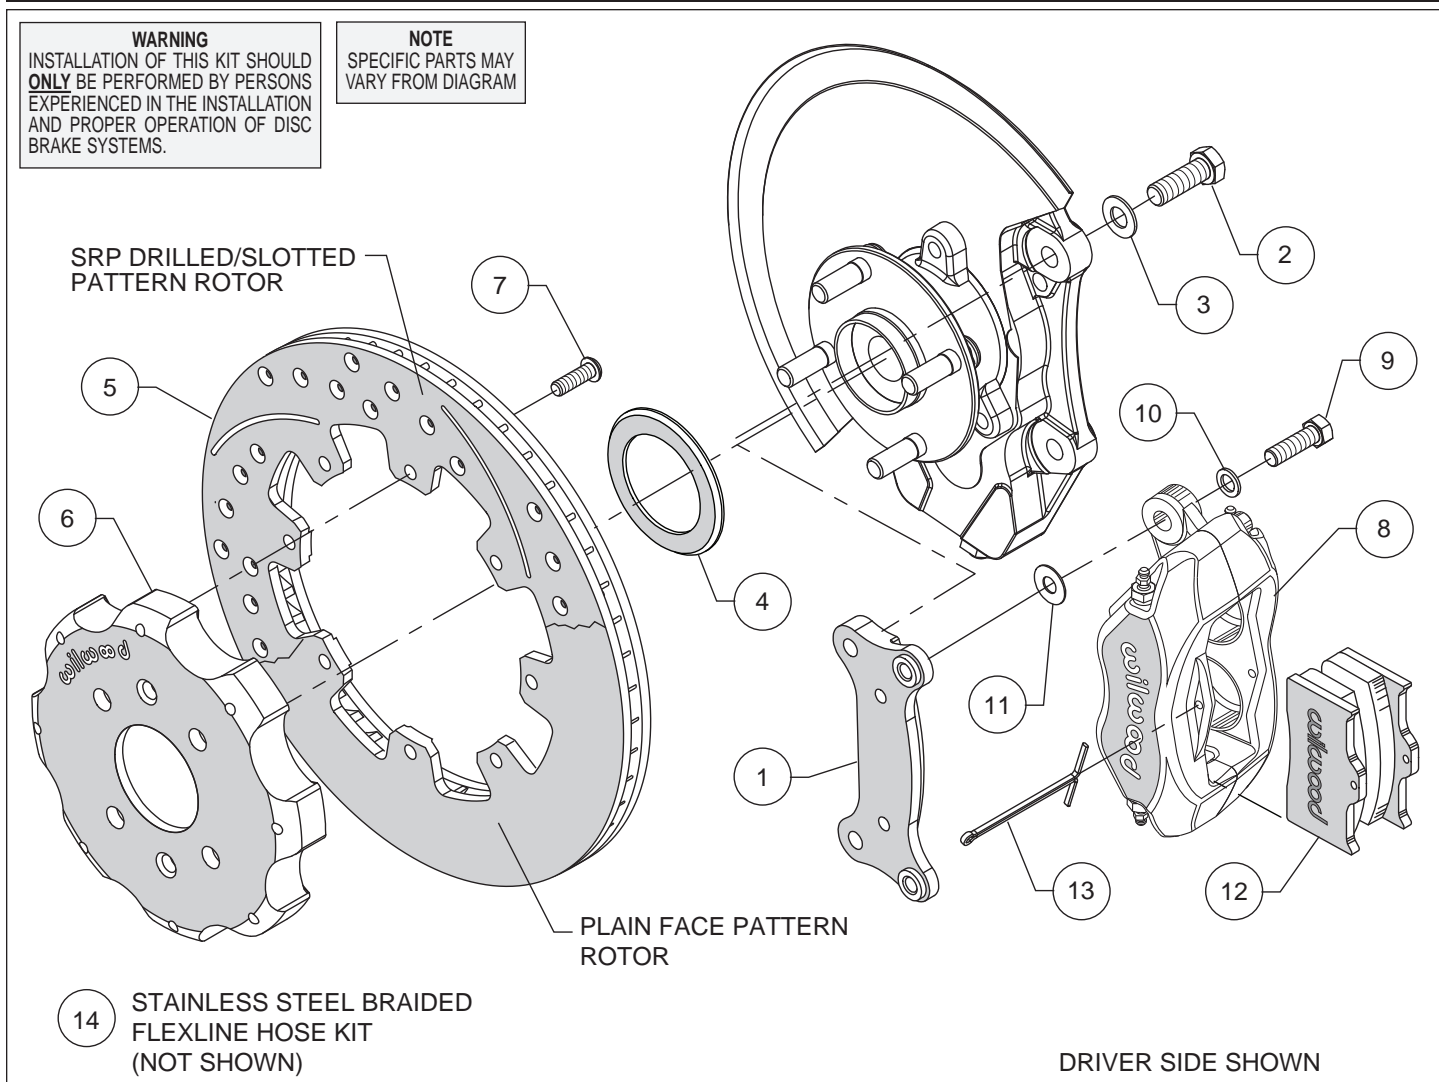
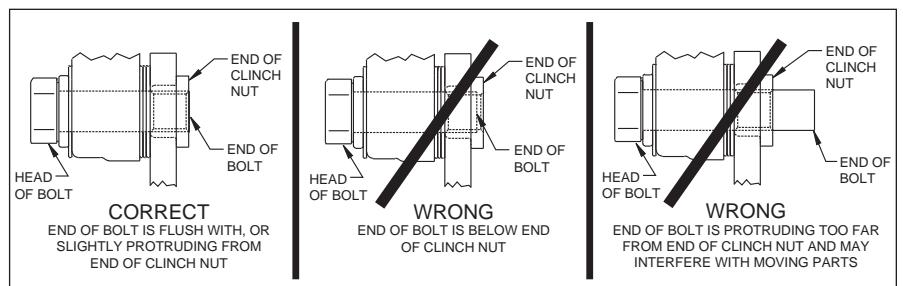

Figure 1. Typical Installation Configuration
Figure 3. Clinch Nut Engagement Diagram
Assembly Instructions (numbers in parenthesis refer to the parts list and Figure 1 on the preceding pages): **CAUTION:** All mounting bolts must fully engage clinch nuts. Be sure to check that all bolts are either flush or protruding through flanged side of clinch nut after shimming, Figure 3.
- Orient the caliper mount bracket (1) as shown in Figure 1 and Photo 1, and install using bolts (2) and washers (3). Ensure that the flanged heads of the clinch nuts in the bracket are facing outboard, Photo 1. Temporarily tighten the mounting bolts. **NOTE:** The bracket must fit squarely against the mount bosses on the upright. Inspect for interference from casting irregularities, machining ridges, burrs, etc. Remove bolts one at a time, apply red *Loctite*® 271 to the threads and torque to 60 ft-lb.
- Orient the rotor (5) and the hat (6) as shown in Figure 1 and Photo 2. Attach rotor to hat using bolts (7). Using an alternating sequence, apply red *Loctite*® 271 to the threads, and torque to 25 ft-lbs.
- Slide the rotor registration adapter (4) onto the axle register on the axle hub with the smaller O.D. facing toward the rotor/hat (5/6), Photo 3. Slide the hat/rotor assembly onto the axle hub. **NOTE:** The hat must fit flush against the axle hub flange or excessive rotor run out may result. Install three lug nuts (finger tight) to keep the hat/rotor assembly in place while continuing with the installation.
- **NOTE:** Please reference the caution statement at the beginning of the assembly instructions. Mount the caliper (8) onto the caliper mounting bracket (1) using bolts (9) and washers (10), as shown in Figure 1. Initially place one .035" thick shim (11) on each bolt between the caliper and the bracket, Photo 4. Temporarily tighten the mounting bolts and view the rotor (5) through the top opening of the caliper. The rotor should be centered in the caliper, Photo 5. If not, adjust by adding or subtracting shims between the bracket and the caliper. Always use the same amount of shims on each of the two mounting bolts. **NOTE:** The end of each bolt must be flush with or slightly protruding from the head of the clinch nut, as shown in Figure 3. If necessary place spare shims between washer (10) and caliper mounting ear to achieve the proper clinch nut engagement. Once the caliper alignment and clinch nut engagement are correct, remove the bolts one at a time, apply red *Loctite*® 271 to bolt threads, and torque to 40 ft-lb.